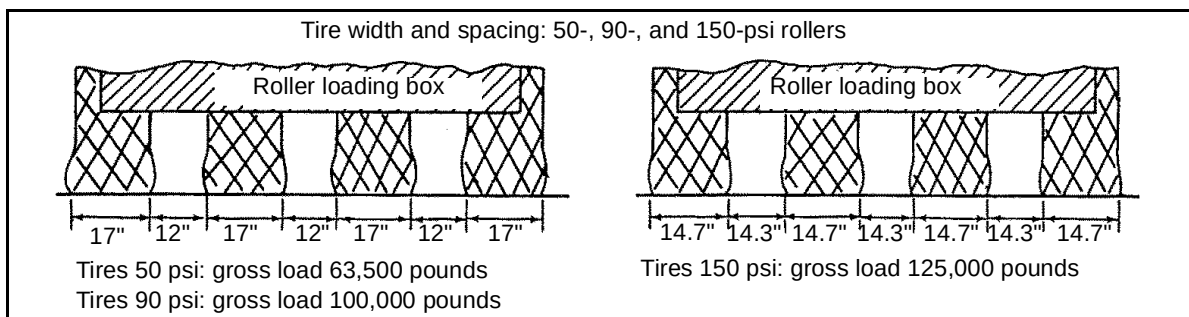
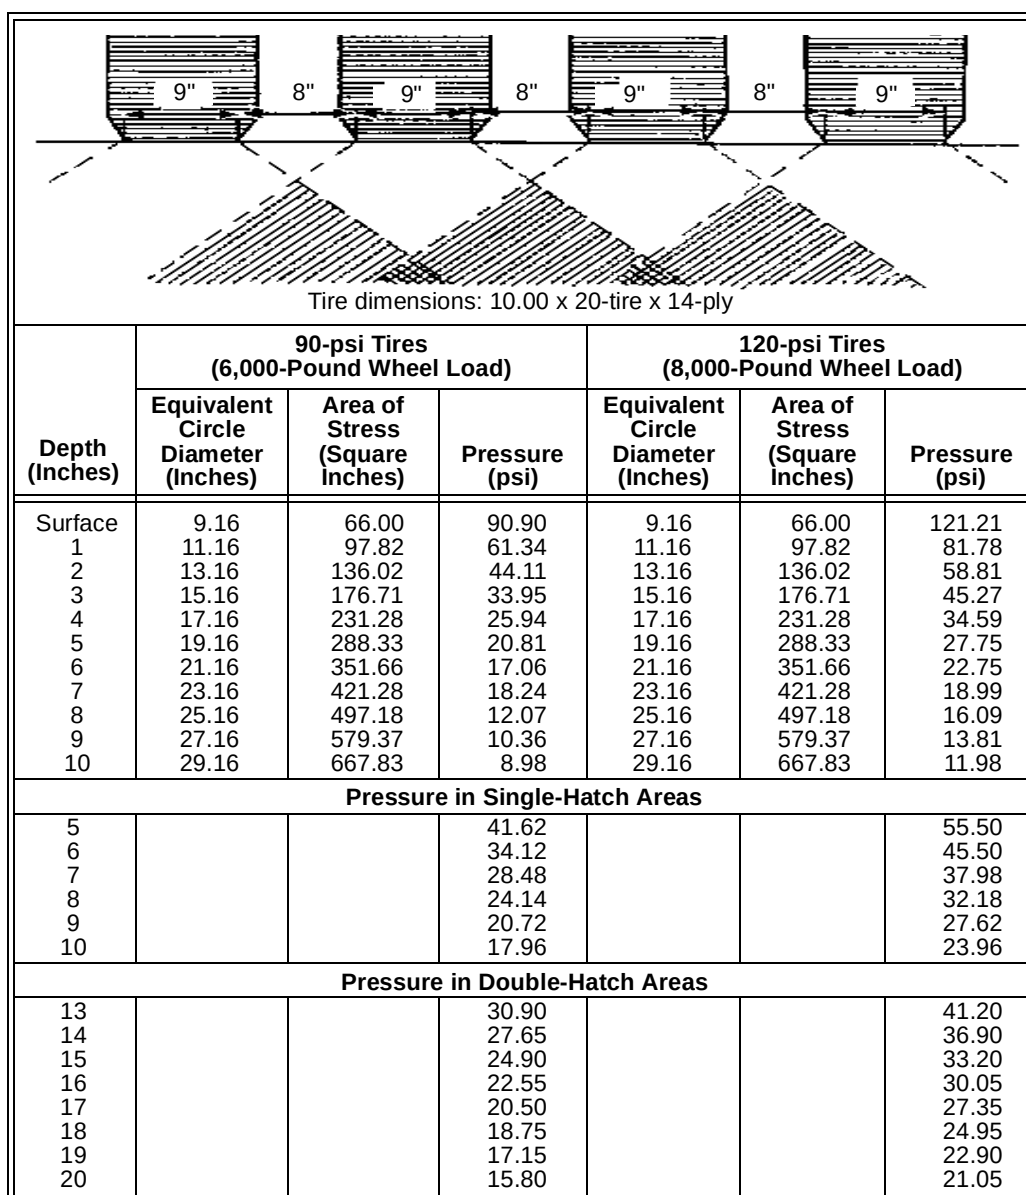

Figure 11-8. Varying Wheel Loads and Tire Pressures
Figure 11-9. Tire Pressures at Various Depths
- Surface coverage.** The wheel arrangement and the tire deflection determine the surface coverage. *Figure 11-8* shows the results of varying wheel loads and tire pressures on single-pass coverage for a heavy pneumatic-tired roller. Most of the pneumatic-tired rollers use two rows of tires. The tires of one row offset the gaps between the tires of the second row. This ensures complete coverage with one pass. Heavier rollers have only one row of tires and require two passes for complete surface coverage. The additive effects of the pressure bulbs from the wheels on heavier rollers affect the at-depth coverage and the rolling pattern. *Figure 11-9, page 11-14*, shows that at-depth coverage requires considerable overlap with each pass to ensure that the entire area has received the same compactive effort.